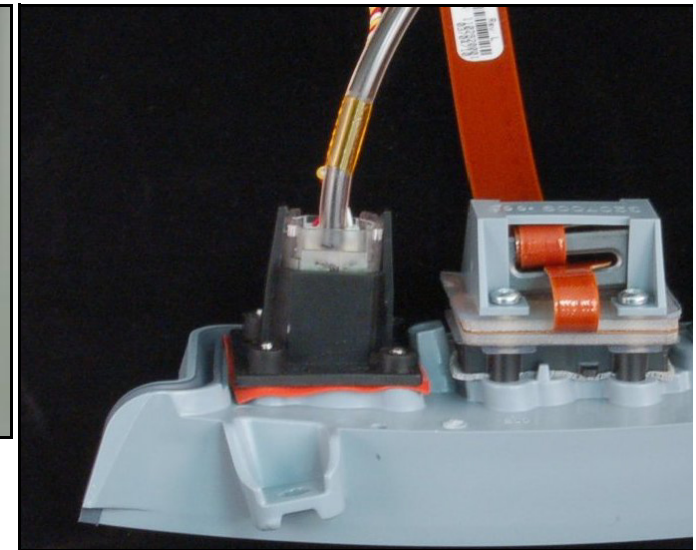

Figure 10.115—SpO2 connector cable
3. Insert the SpO2 connector cable into the parameter bezel and secure with the four new screws (3205311-001); torque to 2 in-lb using a Torx T-10 bit (see Figure 10.115 on p. 464 for connector orientation).